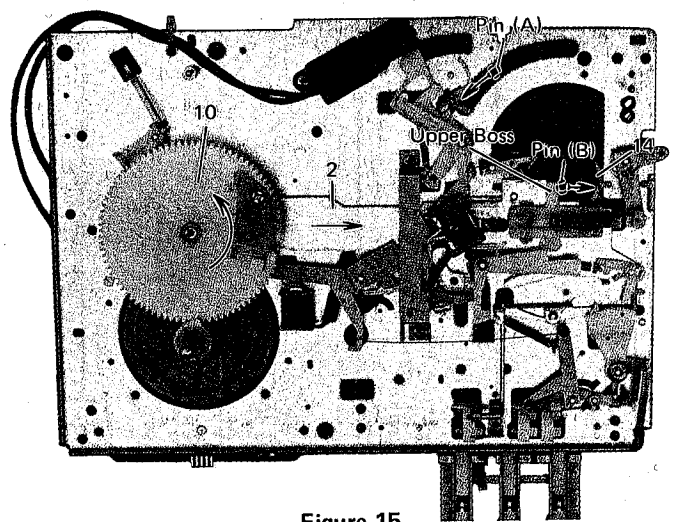

Figure 15
- (3) Main Gear (10) starts turning and slides back Return Lever Assembly (2) to right to push back Pin (B) on the Pickup Plate Assembly at the upper boss of Return Lever (2). Pickup Arm returns to the Stand and Lead-in Slider (14) returns up. (Figure 15)